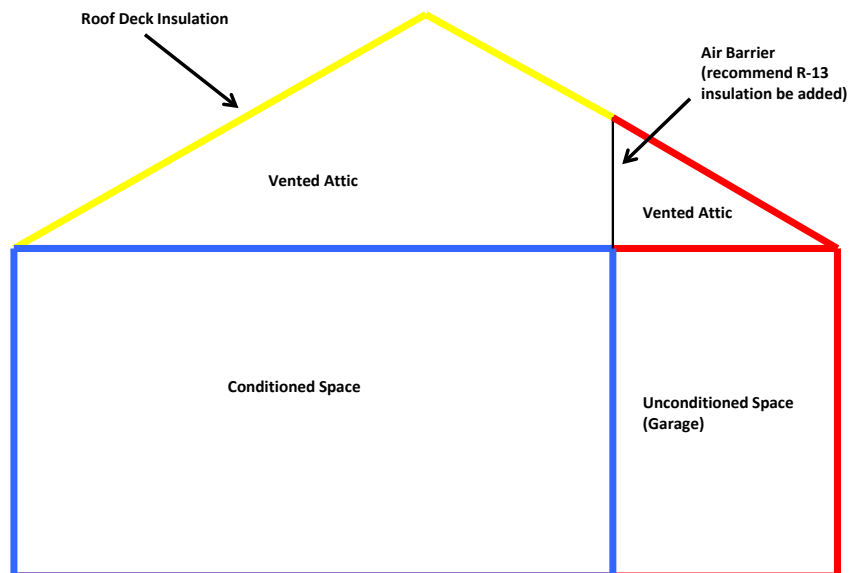

Figure 4 - House with attic insulation extending over conditioned space, attic over conditioned and unconditioned space separated by an air barrier
2. If the attic has a continuous air barrier separating the attic over unconditioned space from the attic over conditioned space, then only the portions of the roof over conditioned space should be insulated. It is recommended, but not required, that the air barrier is also insulated. This is illustrated in Figure 4.